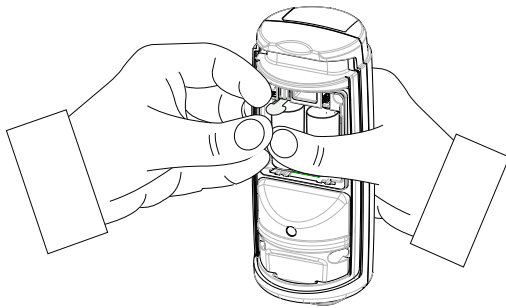

Figure 16: Pulling the battery tab
4. Optional: To activate the batteries of a new device, pull the battery tab while holding the batteries in place with your thumb. See Figure 16.